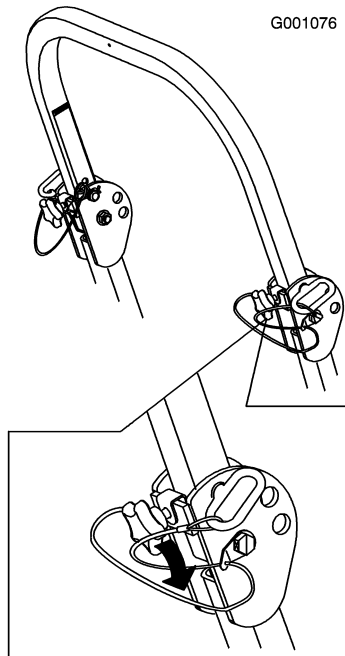

Figure 11
8. Tighten the front knobs against the center roll bar ends (Figure 11).